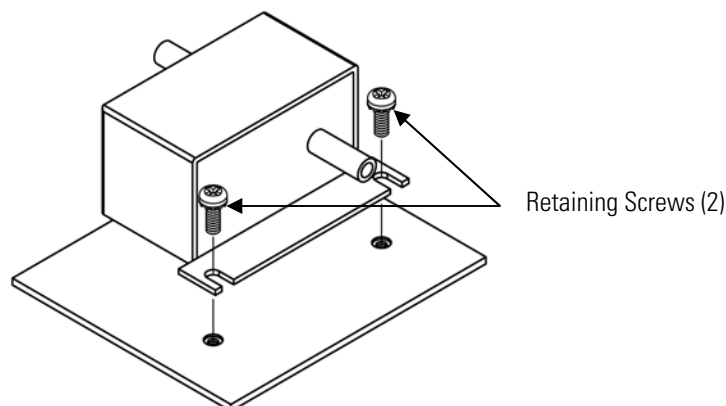

Figure 7–12. Replacing the Flow Transducer
Use the following procedure to replace the flow transducer (Figure 7–12).
2. Disconnect flow transducer cable from the FLOW connector on the measurement interface board (Figure 7–2).
4. Remove the two retaining screws holding the flow transducer to the floor plate and remove the flow transducer (Figure 7–12).